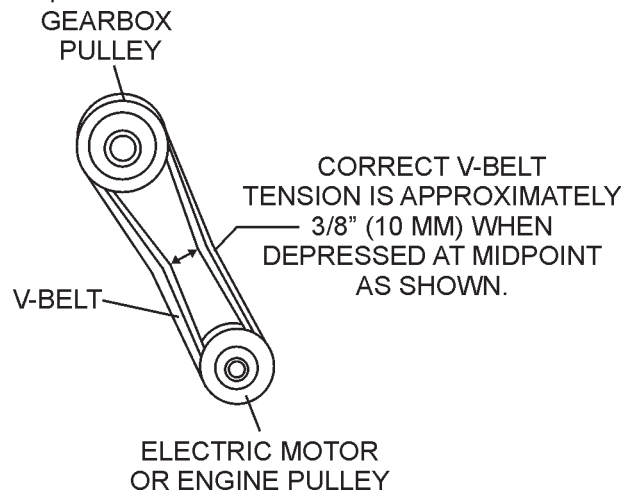

Figure 31. V-belt Adjustment
1. To adjust V-belts, remove V-belt cover and loosen the main motor mount bolts (Figure 31), raise electric motor and retighten bolts. Belt tension should be adjusted so that the maximum deflection is approximately 3/8 inch (10 mm).